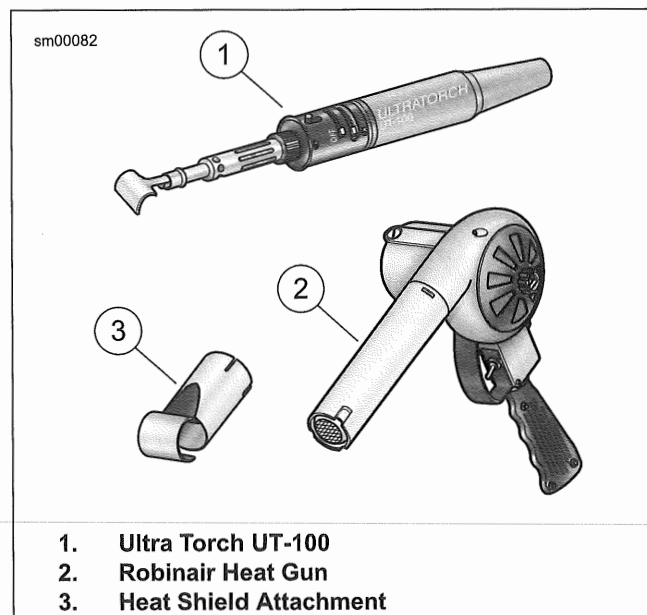

Figure 7-15. Radiant Heating Devices
6. See Figure 7-15. Use ULTRA TORCH UT-100 (PART NUMBER: HD-39969) or ROBINAIR HEAT GUN (PART NUMBER: HD-25070) with HEAT SHIELD ATTACHMENT (PART NUMBER: HD-41183) or equivalent. Uniformly heat the heat shrink tubing to insulate and seal the soldered connections. Apply heat just until the meltable sealant exudes out both ends of tubing and assumes a smooth cylindrical appearance.